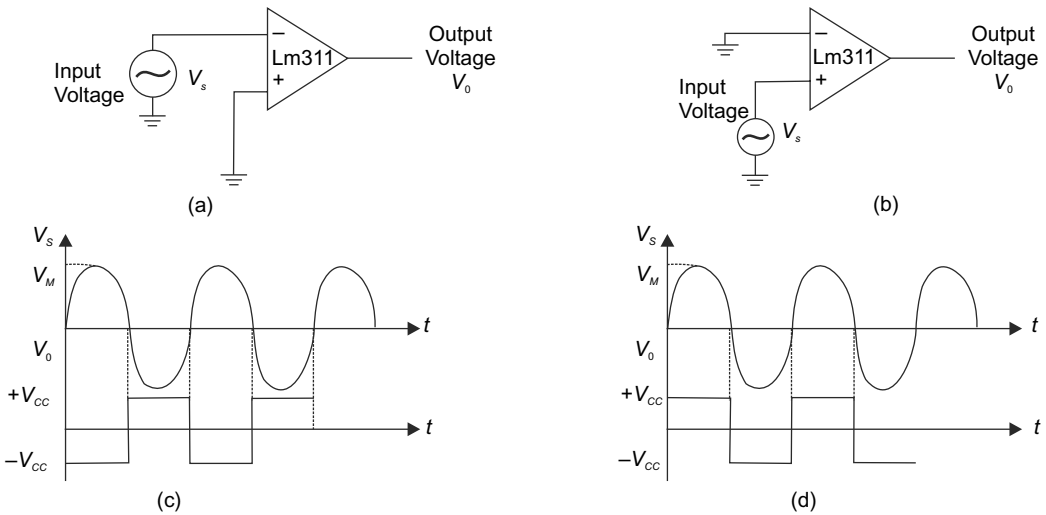

Fig. 10.18 (a) Inverting ZCD (b) Non-inverting ZCD (c) Input and output voltage of inverting ZCD (d) Input and output voltage of non-inverting ZCD
To measure the frequency of an ac signal, firstly the ac signal is converted into dc square waveform using Zero Crossing Detectors (ZCD) as shown in Fig. 10.18. Then the time period of half cycle of square wave is measured, which is directly related with frequency. The relation between frequency (f) and time period (T) is $f = \frac{1}{T}$.
Usually, the Zero Crossing Detector (ZCD) is an open-loop or saturation-mode operation of the operational amplifier and it is basically a comparator with zero reference voltage. Zero crossing detectors are of two types—inverting and non-inverting type as shown in Fig. 10.18 (a) and (b) respectively. Whenever the input voltage crosses the zero axis, the output voltage changes abruptly. In an inverting zero crossing detector, input voltage is applied to the inverting terminal, and the output voltage signal is out of phase (180 phase shift from the input voltage). In case of non-inverting zero crossing detector, the input voltage is applied to the non-inverting terminal. Therefore, the output voltage is in phase with the input signal.
As depicted in Fig. 10.18(b), ZCD converts the positive half-cycle of ac input voltage to a rectangular waveform. Output is low in the negative half-cycle and high in the positive half-cycle. The amplitude of a square wave will be either $+V_{CC}$ or $-V_{CC}$. When the operational amplifier operates in $+12\text{ V}$ and -12 V , the output voltage will vary in between $+12\text{ V}$ and -12 V . But microprocessors can operate at 5 V only. Therefore, the output square wave must be converted into $+5\text{ V}$ and 0 V using some additional arrangement in ZCD as depicted in Fig. 10.19.